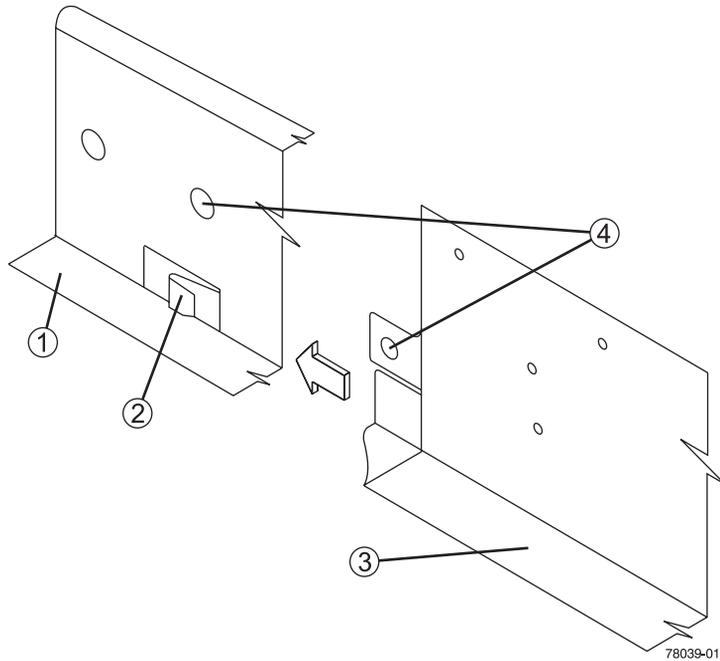

Figure 1-24 Sliding the RAID/Disk Enclosure into the Rail's Rear Clip
Finish the installation of the rails and install the RAID/disk enclosure using the following steps and Figure 1-24 on page 30.
Note: The holes in the disk enclosure sheet metal for the rear hold-down screws should align with the captured nuts in the side of the support rails as in item 4 of Figure 1-24.